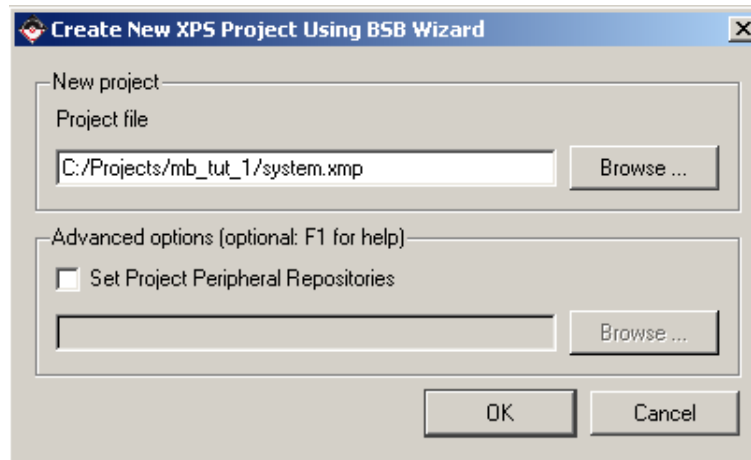

Figure 1: Create New XPS Project Using Base System Builder Wizard
- (ii) Select Base System Builder Wizard (BSB) to open the “**Create New XPS Project Using BSB Wizard**” dialogue box shown in Figure 1.